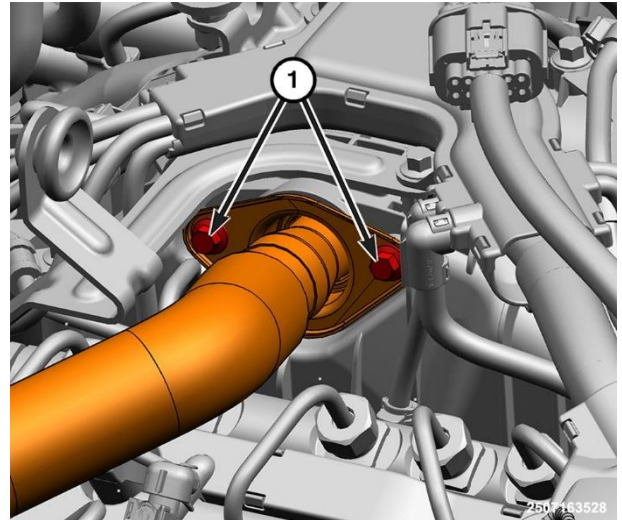

Figure 108 – Upper EGR Tube
- 25. Remove the upper Exhaust Gas Recirculation (EGR) tube bolts (1) (Figure 108).